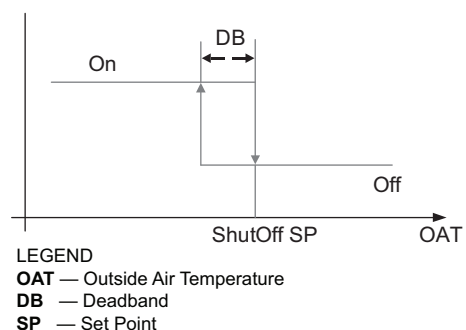

Fig. 56 — Hysteresis Settings
Hysteresis setting (DB) defaults to 2°F (–17°C). See Fig. 56.